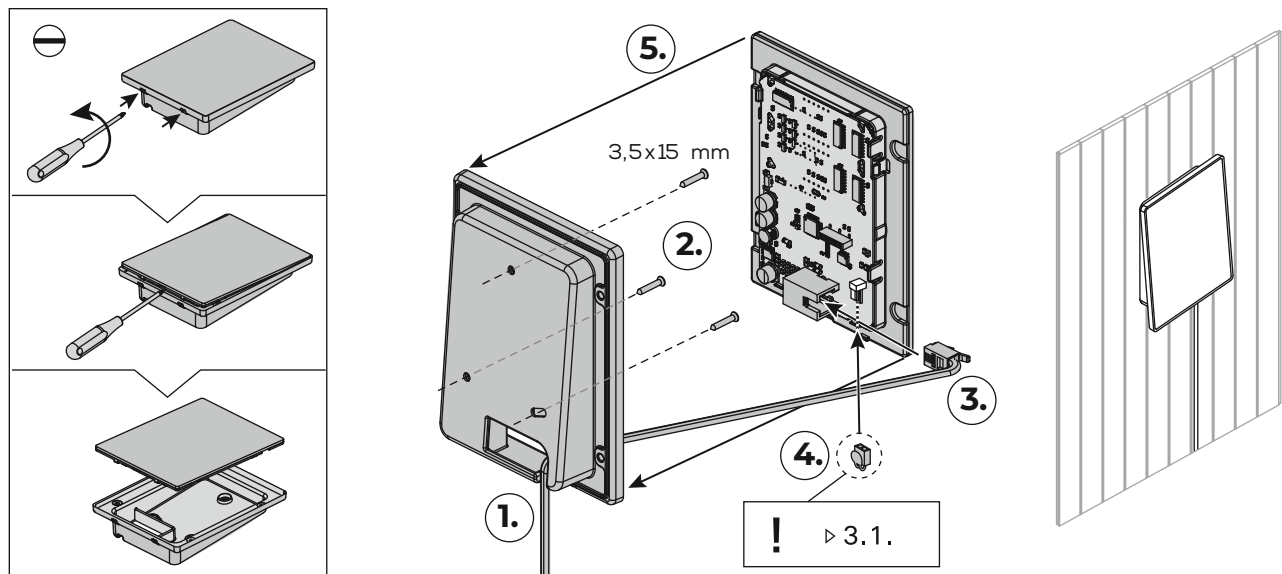

Figure 9. Fastening the control panel
- Option A: Connect the internal temperature sensor inside the control panel (see figure 9). Fasten the control panel inside the infrared cabin at a minimum height of 1 m.
Install the control panel in or outside the infrared cabin, in a dry place with an ambient temperature of $>0^{\circ}\text{C}$ where it can be accessed conveniently. See figure 9.